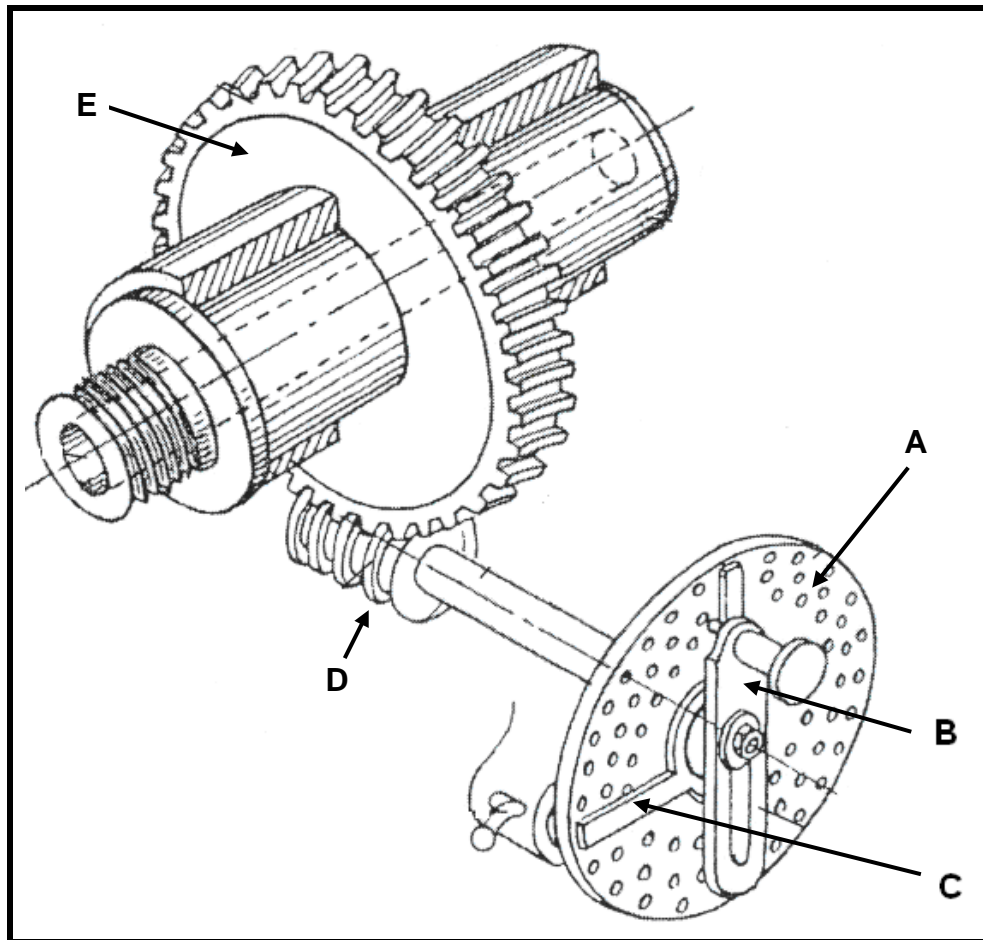

FIGURE 4.1
- 4.9 FIGURE 4.1 below shows a dividing head of a milling machine. Label parts A–E.